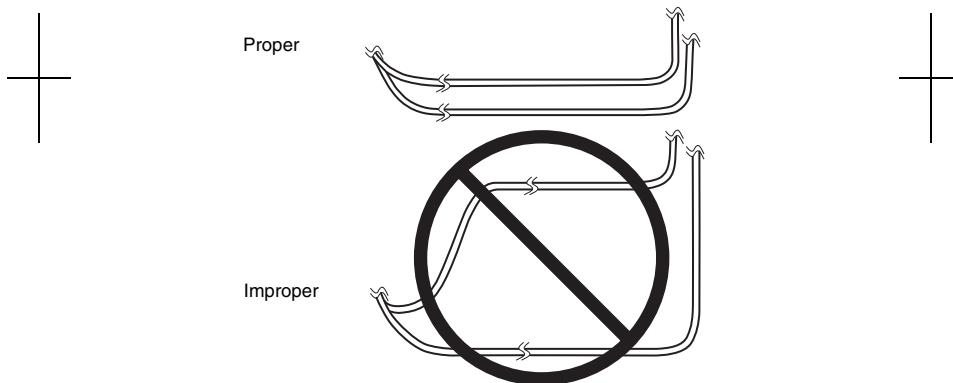

Figure 5. Routing for two leads.
- When two leads are implanted, route the leads so the area between them is minimized (Figure 5). If the leads are routed in a loop and the patient is exposed to some sources of electromagnetic interference (eg, theft detectors), the patient may perceive a momentary increase in stimulation, which some patients have described as uncomfortable stimulation (jolting or shocking sensation).